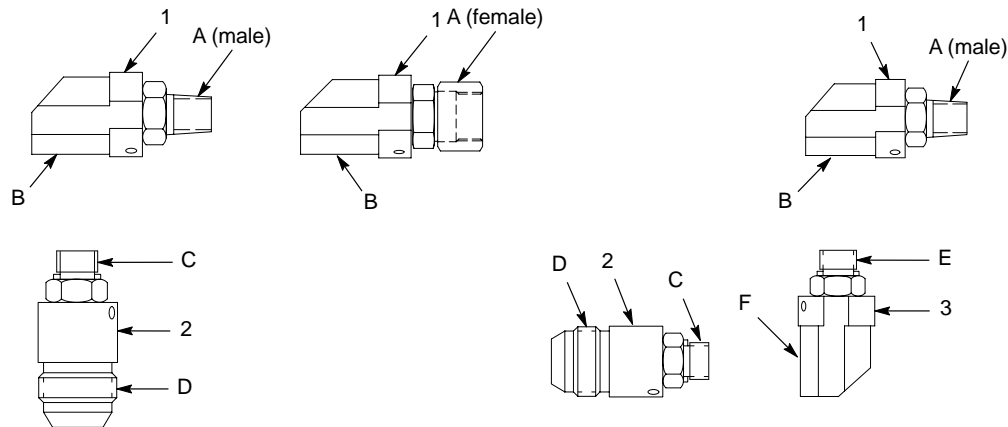

Figure 1 Small Swivels—Typical Combinations
- See Figure 1 and refer to Table 2. Choose one elbow swivel (1) as the basis for your assembly.
- Add one straight swivel (2) to the elbow to create a two-plane assembly or add an elbow swivel (3) and a straight swivel (2) to create a three-plane assembly.